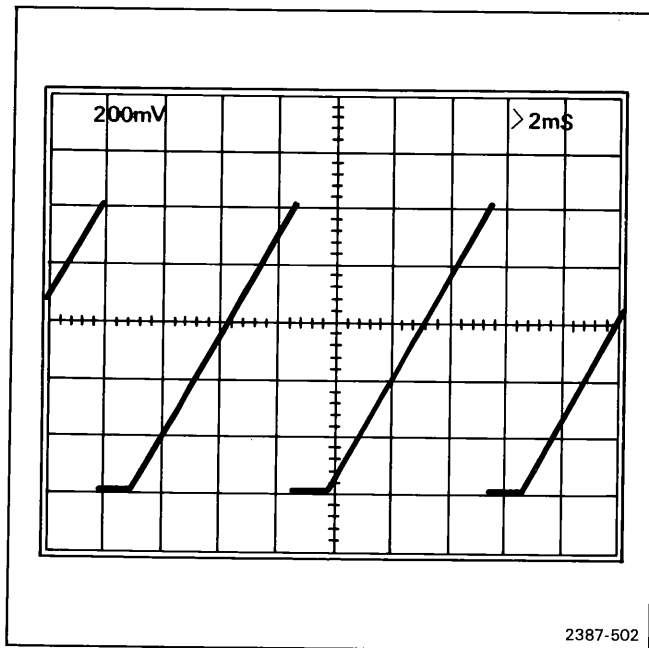

Fig. 5-2. Display of ramp waveform for checking X gain.
- b. **CHECK**—that the amplitude of the ramp displayed on the test oscilloscope is between 4.85 and 5.15 divisions (5.0 ± 0.15 div). See Figure 5-2.